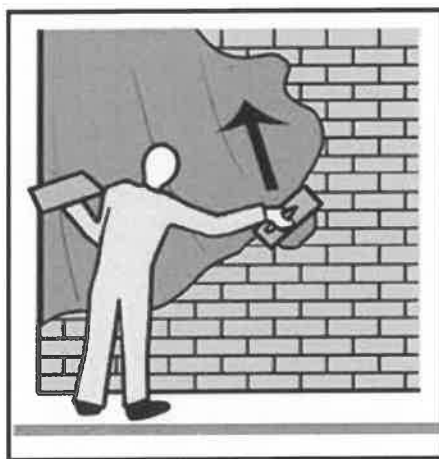

FIGURE 5.1
- 5.1 FIGURE 5.1 below shows a person finishing off a wall on the inside of a new building.